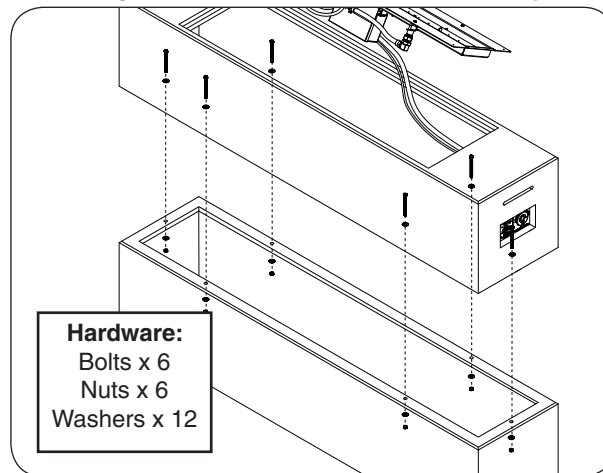

Fig. 17-3 Verify proper base assembly
1. Align the top piece over the bottom piece. Insert the hardware kits in the order shown in Fig. 17-3. Hand tighten, then use two $\frac{1}{2}$ " open end wrenches (or equivalent) to fasten.